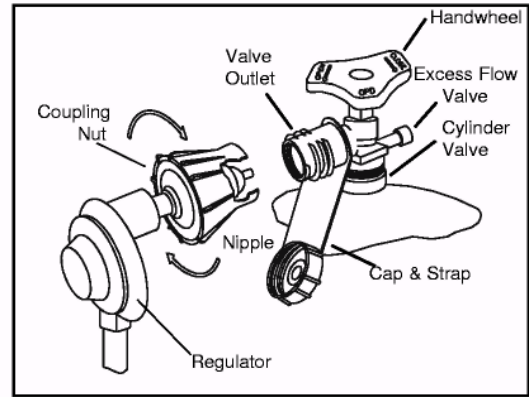

Figure 6. REGULATOR AND HOSE / COUPLING ASSEMBLY
Procedure for 20 lb Tank Connection: (See Figures 6, 7, 8)
7. With the Regulator in your hand, insert the Nipple into the Cylinder Valve. Make sure the Nipple is centered in the Cylinder Valve Outlet. Tighten the Coupling Nut by hand, making sure not to cross-thread the connection. Please note that when you connect your cylinder to the grill, you will feel the nipple seal when there is slight resistance. (See Figure 6) Turn until the Coupling Nut will turn no further (about one-half to three-quarters of a turn) to complete the connection. Tighten only by hand; do not use tools. If you cannot complete the final connection, disconnect the Coupling Nut and repeat step 7, above. If you are still unable to complete the connection, replace the appropriate parts.
(See Figure 6, Page 9)
(See Figure 6, Page 8)
(see Figure 6, Page 8)